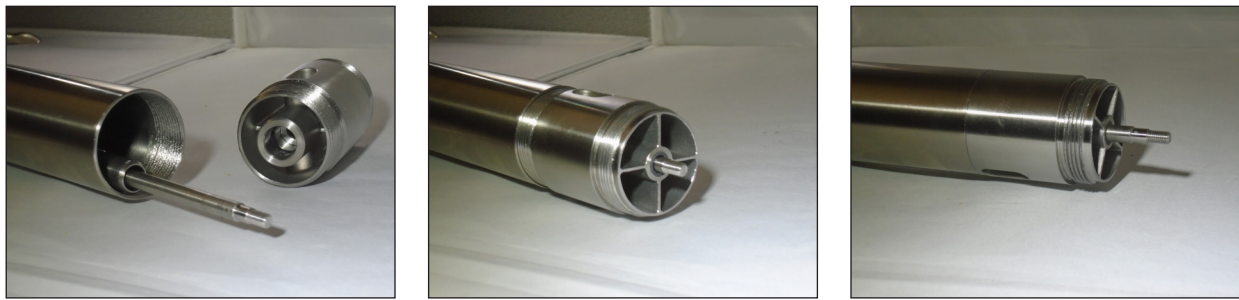

Figure 15 A, B, & C
6. **Diffuser Installation** - Install the diffuser (item 8) onto the bottom of the outer tube. This is a tight fit so it is recommended to use a compatible lubricant or water. Insert the shaft through the small support opening on the diffuser. The small support opening will insert up inside the inner tube (item 12). With a slight push and turn, thread the diffuser into the outer tube (item 6) turning counter clockwise (left hand thread). Thread the diffuser (item 6) completely onto the bottom of the outer tube (item 5). Hand tighten. See figures 15 A, B, & C.